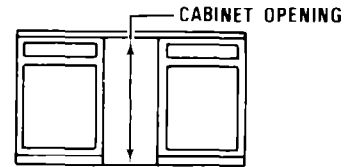

FIGURE 10
8. Before moving the compactor into position, measure the cabinet opening as shown in Figure 10. To determine if height adjustment is required, see steps 9 and 10 below.